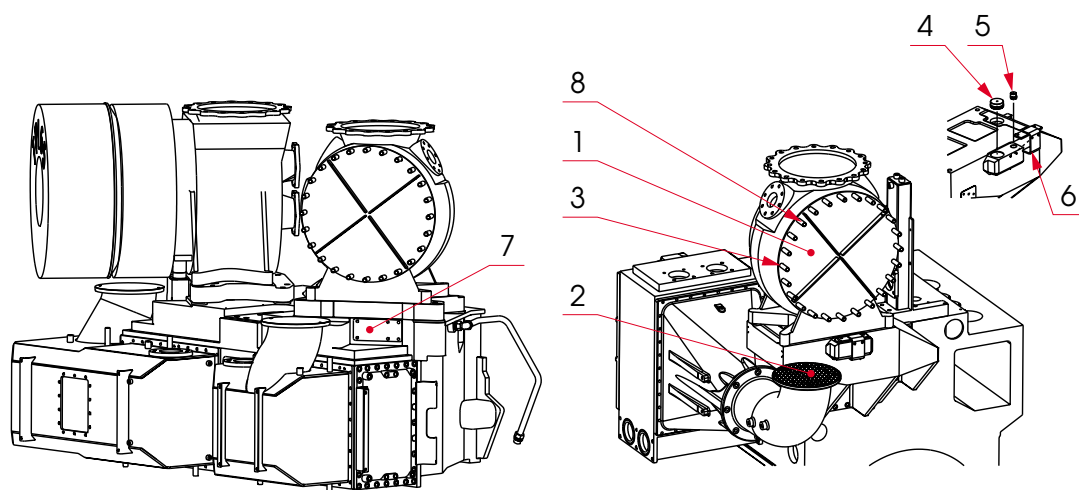

Fig 15-3
- 3 Mount the screen plate(s) (2)** on the flange connection of the air cooler housing, see Fig 15-3.
- 7 Mount the lifting equipment** and open the nuts (8). Remove the compressor casing.